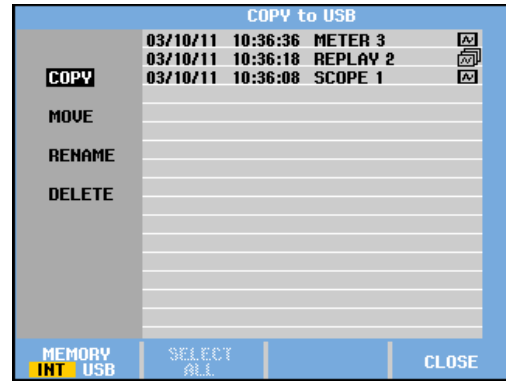

Figure 2.
- If you see a screen like figure 2 on page 2 continue at step 3 below.